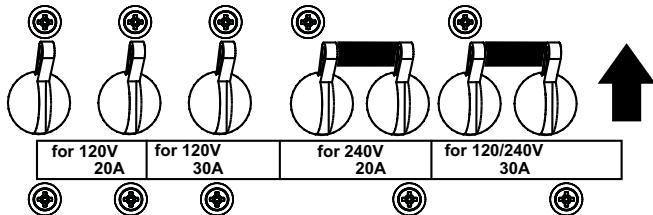

Figure 27. GFCI/AUX. Circuit Breakers (ON)
12. Place **GFCI** and **AUX** circuit breakers (Figure 27) in the **ON** position.